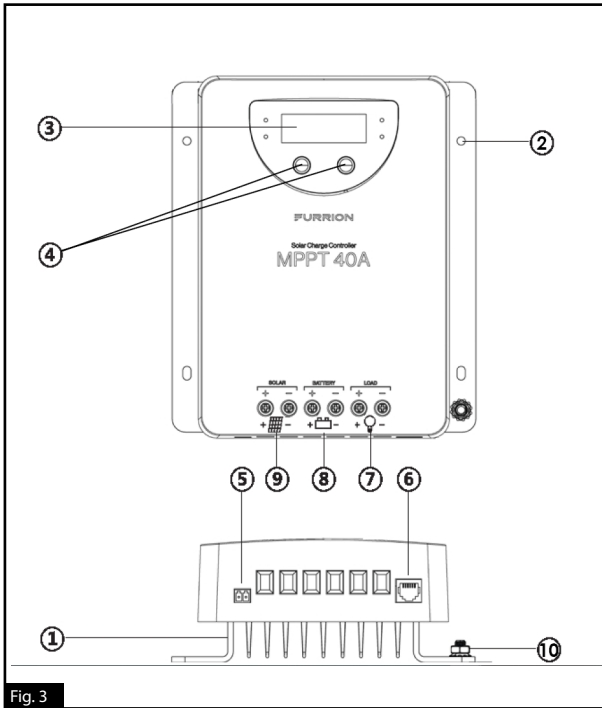

Fig. 3
An external temperature sensor (not included) is used to collect battery temperature to perform auto temperature compensation function. The temperature sensor is connected to the controller indicated by the item 5 shown in the figure 3.